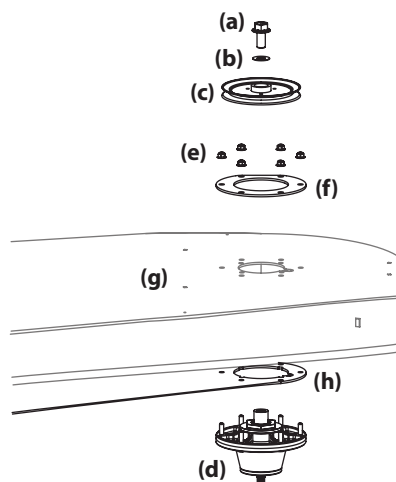

Figure 61
6. Remove the hex flange bolts (a) and flat washers (b) securing the left and right spindle pulleys (c) to the spindle assembly (d). See Figure 61.
7. Remove the six (6) flange lock nuts (e) securing the left and right spindle assemblies (d) and the support plates (f) to the deck shell (g). See Figure 61.
10. Reverse the process to install the spindle assembly. When installing the new spindle assembly be sure to install the hardware exactly as shown in Figure 61. Torque the hex flange bolts to 250 ft-lbs and the flange lock nuts to 21-32 ft-lbs.